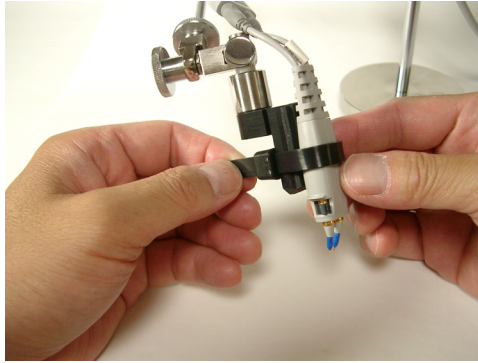

Figure 5 Tightening the probe tie around the probe
- 3 Once the probe tie is in place, tighten the probe down to secure the universal holder to the probe head as seen in Figure 5 on page 8.